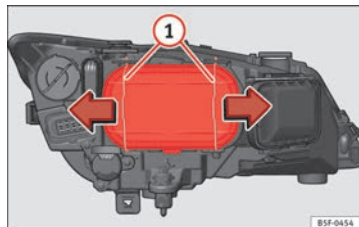

Fig. 184 Dipped beam headlights.
- Move the loops ⇒ Fig. 184 ① in the direction of the arrow and remove the cover.